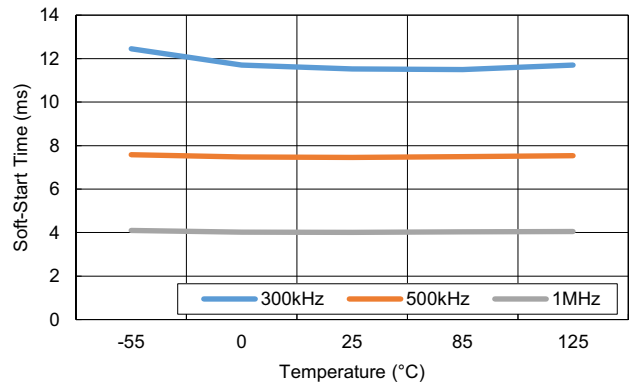
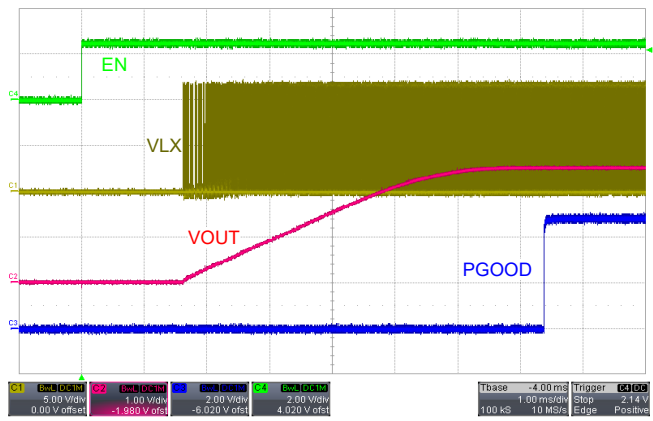
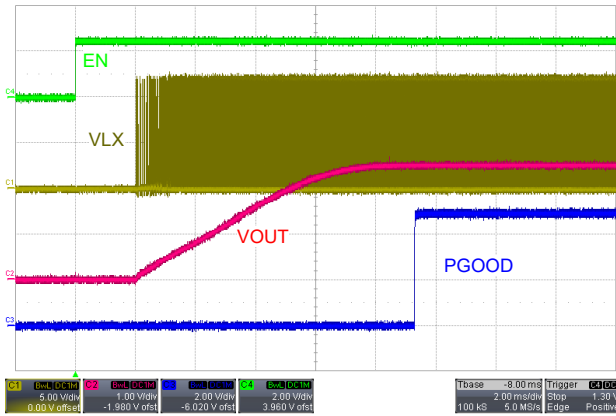

Figure 32. EN to PG Time vs Switching Frequency
Figure 34. ENABLE to LX and VOUT to PGOOD Turn-On 500kHz
Figure 35. ENABLE to LX and VOUT to PGOOD Turn-On 300kHz
During soft-start, the ISL73007SEH monitors for overvoltage (OV) and over-temperature (OT) faults and remains idle if either fault is active. The soft-start time is dependent on the operating switching frequency during startup (see Figure 32). There is a delay from enable active to LX activity during which the ISL73007SEH internal circuitry is biased. This delay time is frequency dependent, typically 2ms for 300kHz and 1.3ms for 1MHz (see Figure 34 and Figure 35).